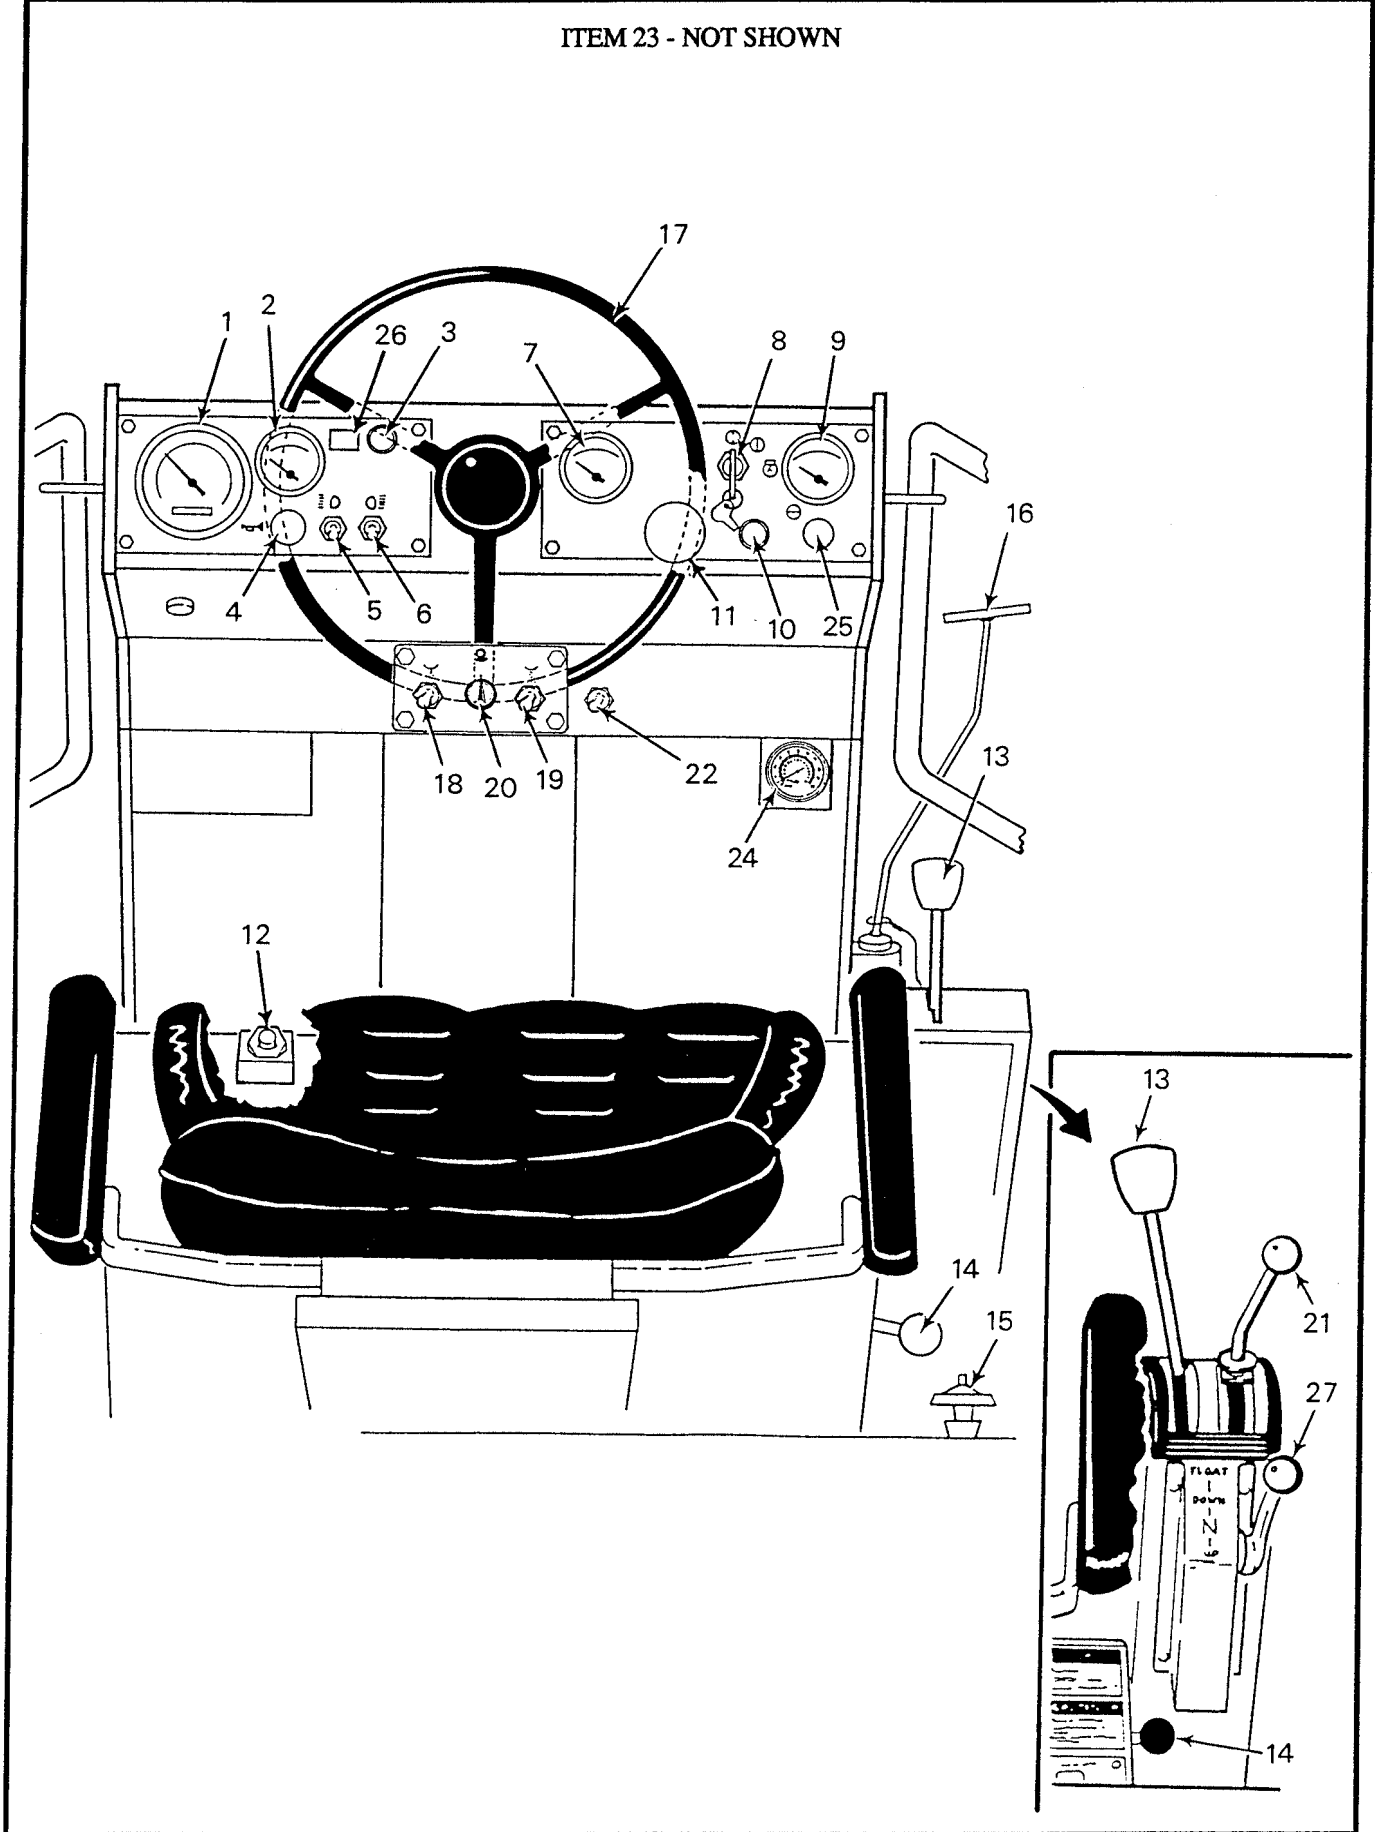

Figure 4-2. Controls and Instruments (Sheet 2 of 2)
### LEGEND FOR FIGURE 4-2. CONTROLS AND INSTRUMENTS
Your machine may be equipped with a strike-off blade. The control (21 or 27) is located at the operator's compartment. Machines built prior to S/N 5628 will have the control located as shown (item 21) on Figure 4-2. Machines built from S/N 5628 and above, will have the control located as shown (item 27) on Figure 4-2. See Section 15 for more information on the strike-off blade.